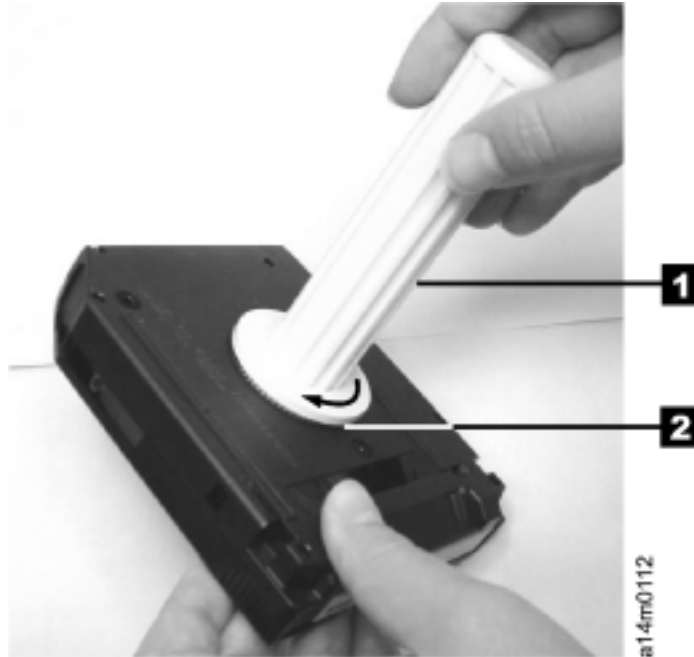

Figure 52. Rewinding the tape into the cartridge
5. To rewind the tape, insert the cartridge manual rewind tool (see **1** in Figure 52 on page 153) into the cartridge's hub **2** and turn it clockwise until the tape becomes taut.